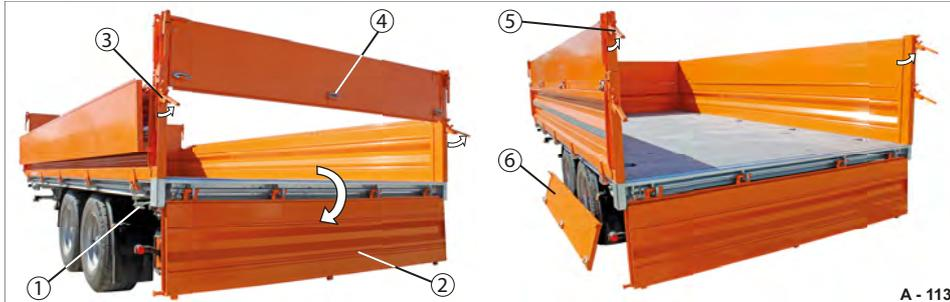

Fig. 116 Rear platform gate/platform gate attachment disassembled
The locks of the platform gate attachment (Fig. 116/3) and the central locking system (Fig. 116/1) must be closed!
The hinges (Fig. 116/4) must be released!
- ▶ Release the hinges of the platform gate attachment (Fig. 116/4).
- ▶ Unfasten the locks of the rear platform gate (Fig. 116/3).
- ▶ Hold the rear platform gate (Fig. 116/2) firmly and fold it down in a slow and controlled manner.
The platform gate attach (Fig. 116/6) swings on the locks (Fig. 116/5).
- ▶ Unfasten the locks of the platform gate attachment (Fig. 116/5).
- ▶ Fold up the rear platform gate (Fig. 116/2).
- ▶ Fasten the locks (Fig. 116/3) of the rear platform gate.
- ▶ Insert the platform gate attachment into the open locks (Fig. 116/5).
- ▶ Fasten the hinges (Fig. 116/4) of the platform gate attachment.